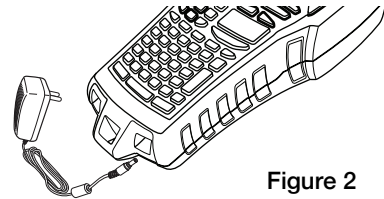

Figure 2
- 1 Plug the power adapter into the power connector on the bottom of the label maker. See Figure 2.